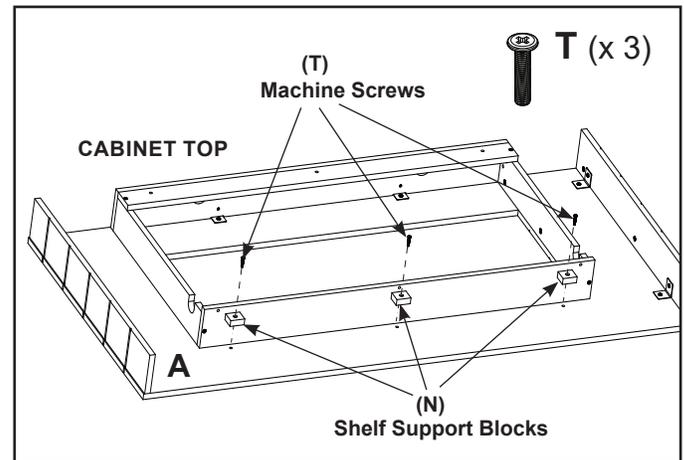

Figure 25
- Secure part "N" to part "I" using M6 x 25 Machine Screws (T). See Figure 25.